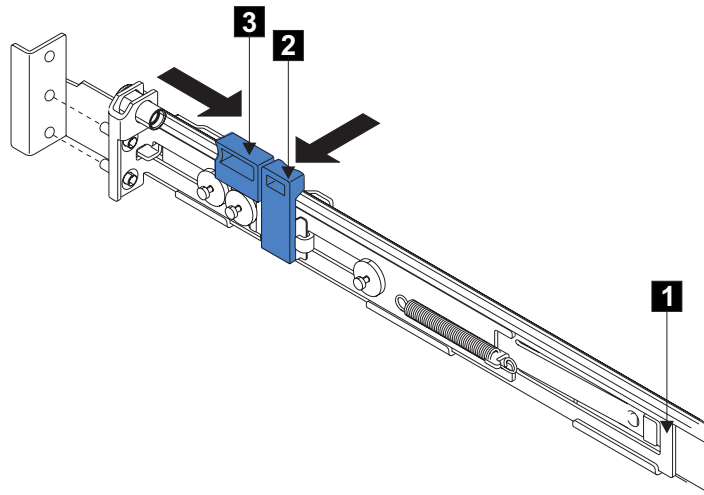

Figure 84. Opening the back latch-lock carrier assembly
5. Push the back rail bracket **1** (Figure 84 on page 359) toward the front of the rail until it stops. The rail is now at its shortest adjustment.